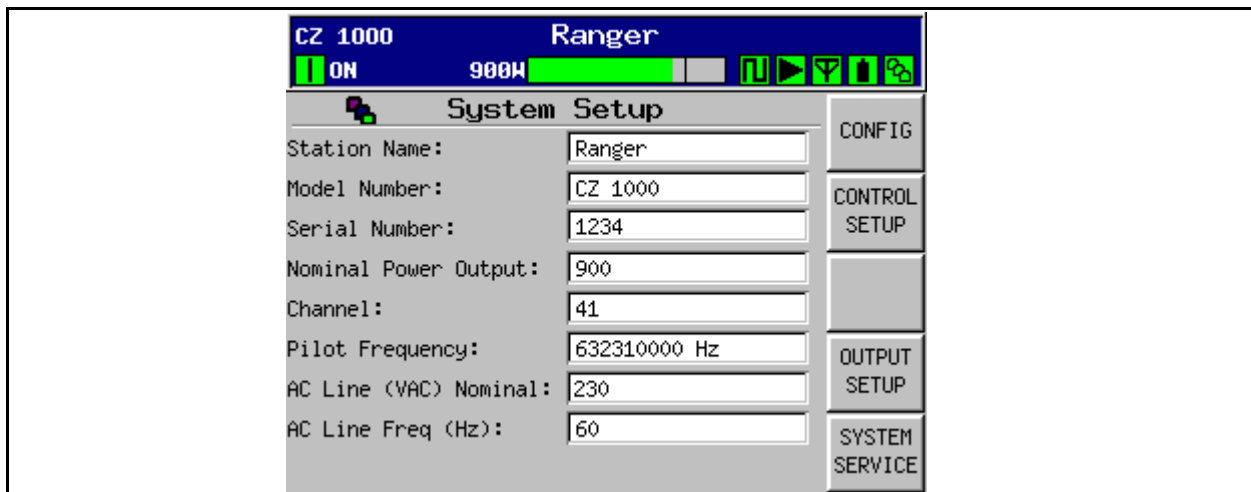
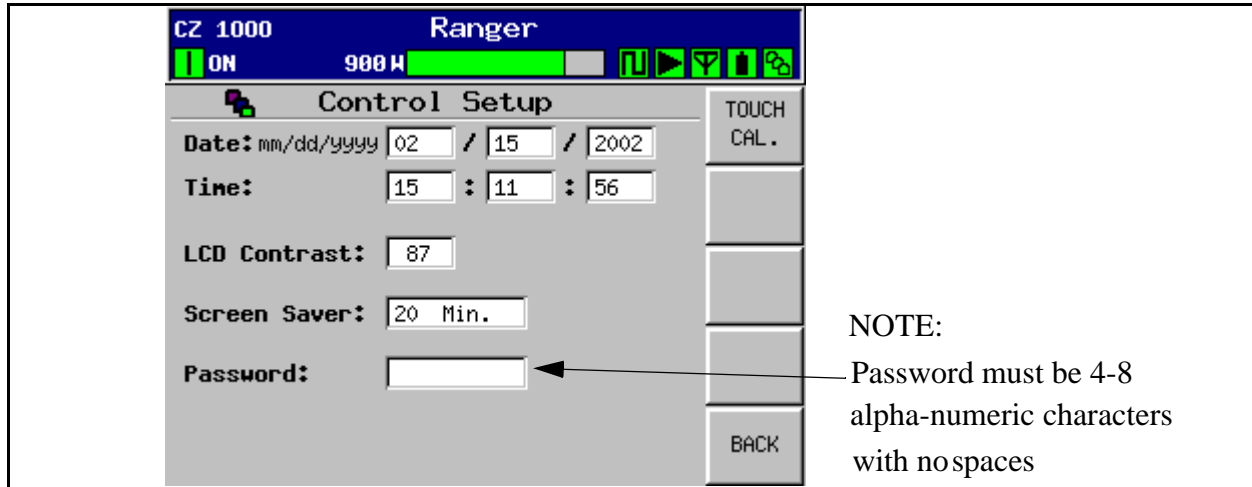

Figure 2-7 System Setup Screen
Figure 2-8 Control Setup Screen
- Customize the transmitter System Setup.** Press the SYSTEM button then enter the default password - 1895. Then press SYSTEM SERVICE and SYSTEM SETUP to access the screen shown in Figure 2-7. The System Setup screen displays the settings for station name, model number, nominal output power, etc. Touch the screen at each field to enter the data pertinent to the site. For more information on this screen see "3.9.3.1 System Setup" on page 3-27.
- Press the **CONTROL SETUP** button in Figure 2-7 to set the **Date, Time, LCD screen contrast and Password on the Control Setup screen, shown in Figure 2-8.** Touch the screen at each field to enter the correct data for Date, time, contrast and password. There is also a time entry for the LCD screen saver feature.